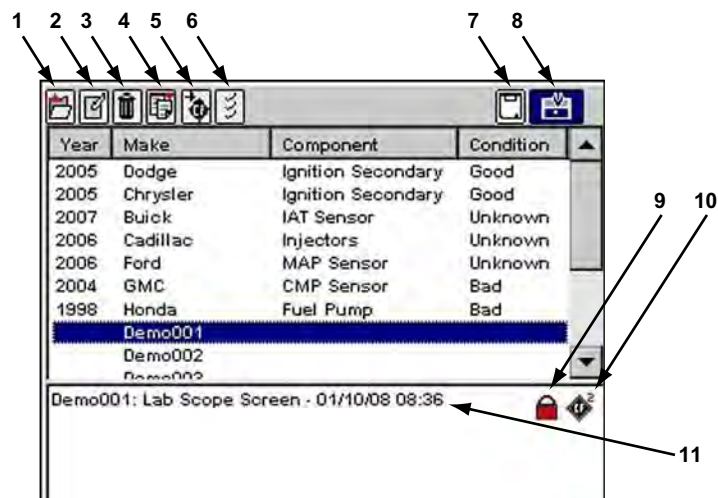

Figure 8-2 Sample Data Management screen
The Data Management screen (Figure 8-2) lets you manage storage memory and saved files.
The Data Management screen displays (Figure 8-2 on page 80).
1. From the main menu, select **Saved Data > Data Management**. The Data Management screen displays (Figure 8-2 on page 80).